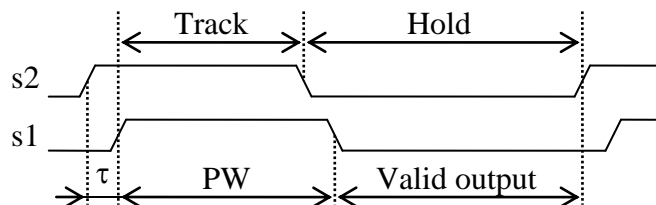

Fig. 4. Sampling Diagram
The input clock buffer converts an external clock cp/cn into two internal signals s1 and s2 with controlled pulse width (PW) and delay (τ) between them as shown in Fig. 4.